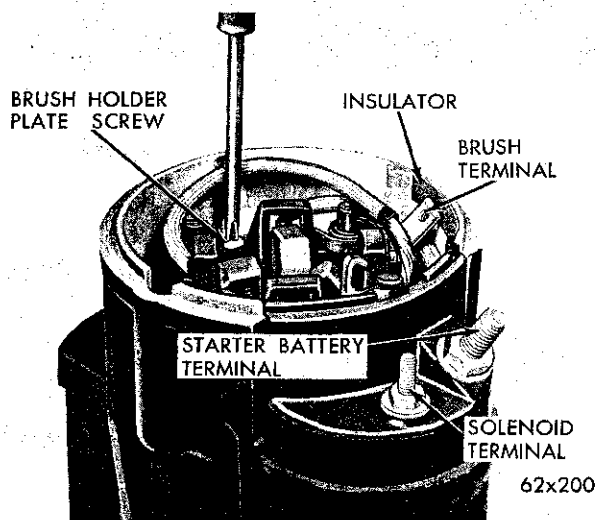

Fig. 4—Removing or Installing the Brush Holder Plate Screw
(6) Remove the brush insulator which prevents contact between the brush terminal and the gear housing (Fig. 4).
(7) Remove the sealer at the brush holder plate and gear housing.
(8) Remove the screw attaching the brush holder plate to the starter gear housing (Fig. 4).